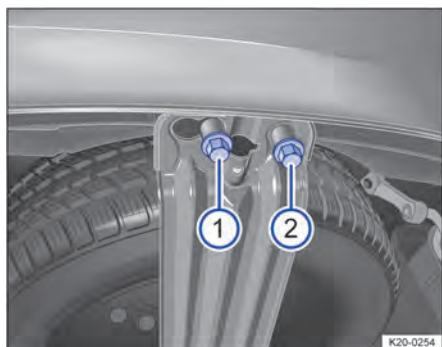

Fig. 209 Underneath the vehicle: retaining bolt ① and securing bolt ② on the spare wheel bracket
1. Use the box spanner from the vehicle toolkit to loosen the retaining bolt → Fig. 209 ① until it is free.
2. Unscrew the securing bolt → Fig. 209 ② completely.
6. Screw in the securing bolt → Fig. 209 ② fully with the box spanner.
7. Screw in the retaining bolt → Fig. 209 ① fully with the box spanner.